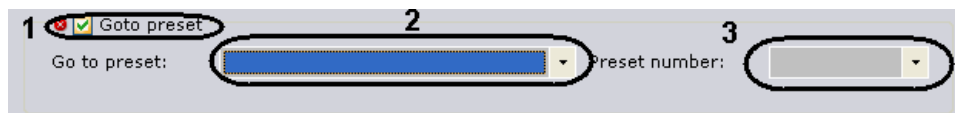

Fig. 6.4—30 Configuring switching to a PTZ camera preset
1. Select the **Go to preset** check box (Fig. 6.4—30, 1).
2. From the **Go to preset** list (see Fig. 6.4—30, 2), select the **Telemetry** object corresponding to the desired PTZ camera.
3. From the **Preset number** list (see Fig. 6.4—30, 3), select the number of the camera preset to which the camera should switch when the detector is triggered.